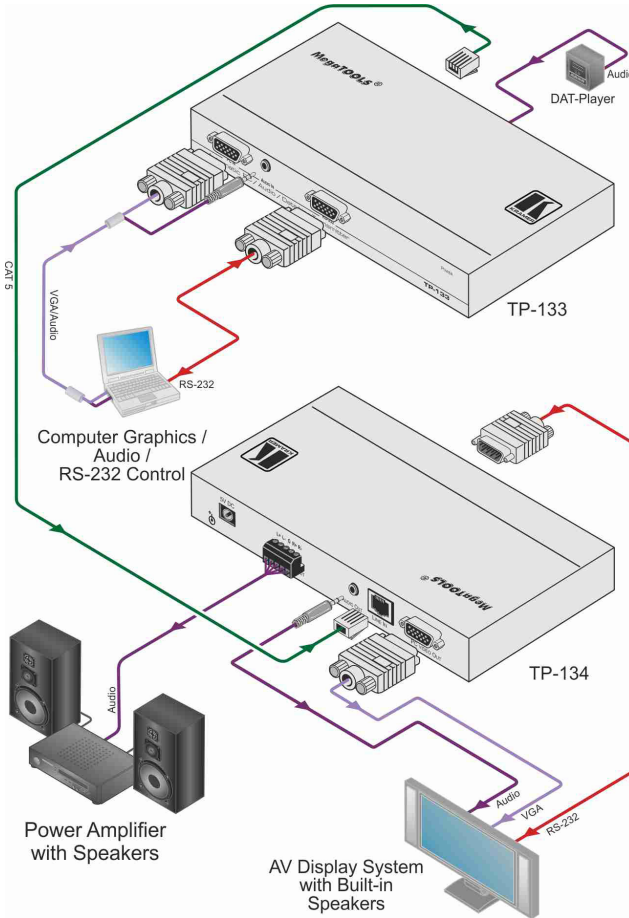

Figure 3: Connecting the TP-133/TP-134 PC/Audio/Data Line Transmitter/Receiver System
**To connect the TP-133 and the TP-134 to create a TP transmitter and receiver system as illustrated in Figure 3:**
- A computer graphics video source (for example, the graphics card on a laptop) to the PC IN 15-pin HD connector (M)
- The RS-232 device, for example, PC or controller with an RS-232 interface to the RS-232 9-pin D-sub connector (F)
- If needed, connect a computer monitor and audio amplifier/loudspeakers to the looping VGA/audio outputs (not shown in Figure 3)
- PC VIDEO OUT 15-pin HD (F) connector to the video acceptor (for example, an AV display system)
- RS-232 9-pin D-sub connector (M) to the controlled device with an RS-232 interface
4. Connect the power adapters to the power sockets on the **TP-133** and **TP-134**, and connect the adapters to the mains electricity (not shown in Figure 3).